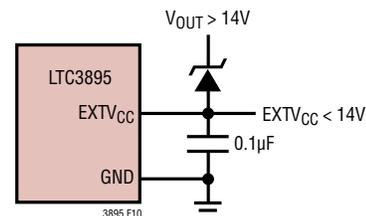

Figure 10. Using a Zener Diode Between V_{OUT} and $EXTV_{CC}$
4. $EXTV_{CC}$ connected to the regulator output through an external zener diode. If the output voltage is greater than 14V, a zener diode can be used to drop the necessary voltage between V_{OUT} and $EXTV_{CC}$ such that $EXTV_{CC}$ remains below 14V (Figure 10). In this configuration, a bypass capacitor on $EXTV_{CC}$ of at least 0.1µF is recommended. An optional resistor between $EXTV_{CC}$ and GND can be inserted to ensure adequate bias current through the zener diode.